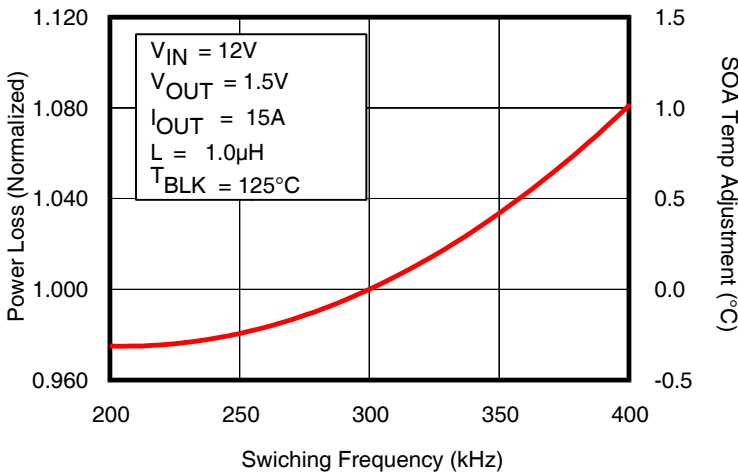

Fig. 6: Normalized Power Loss vs. Frequency
- (Fig. 6) Normalized power loss for frequency \approx 1.08
- (Fig. 6) Normalized SOA Temperature for frequency $\approx +1.0^{\circ}\text{C}$